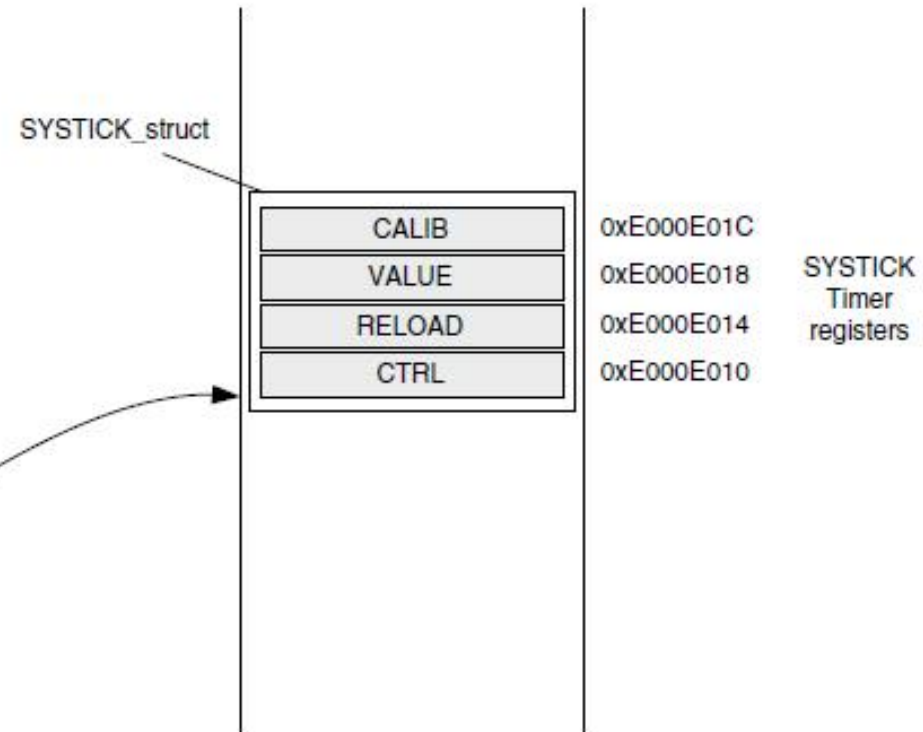

FIGURE 10.5
- This is illustrated in Figure 10.5.